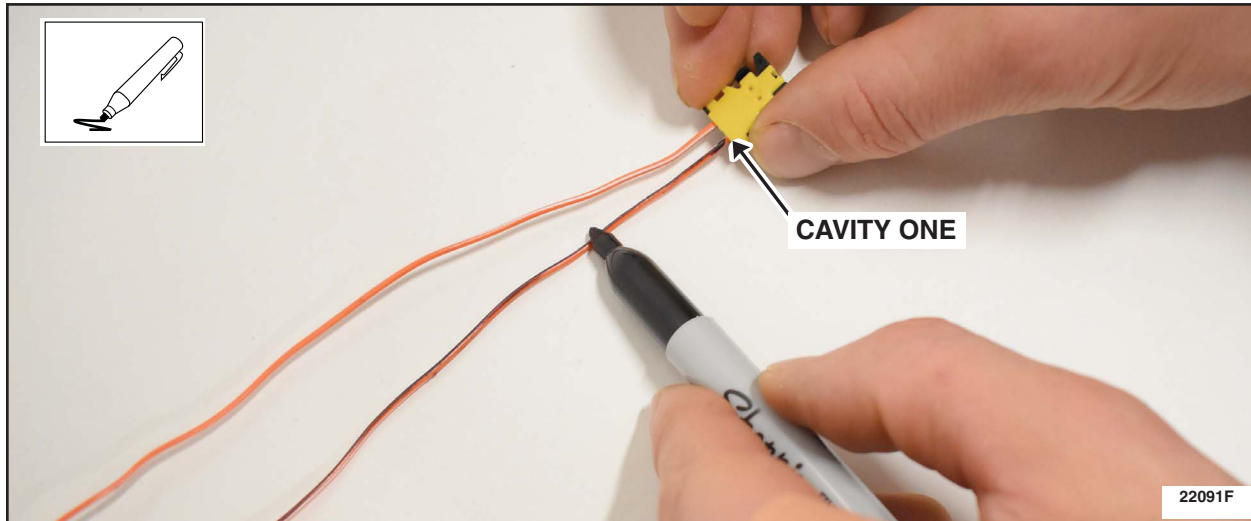

FIGURE 10
9. Using a marker, mark the entire length of the wire located in cavity one. See Figure 10.